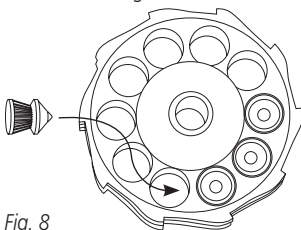

Fig. 8
2. Load pellets through the rear of the magazine. (Fig. 8). Push the pellet noses through the retaining O-ring until their skirts lie flush or below the bottom of the magazine face.